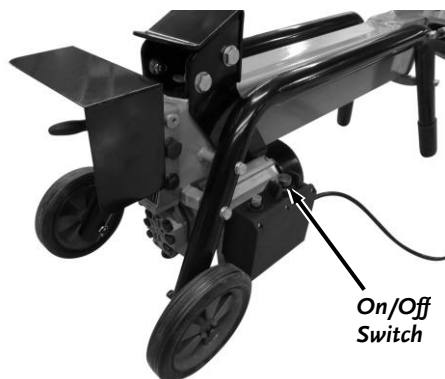

Figure 6
2. Push the On/Off Switch all the way in and hold it to start the Motor (**Figure 6**).